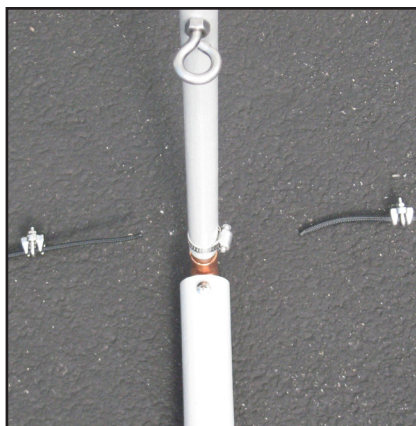

Fig. 96
- Select two (2) SS Lanyard Clamps and thread one lanyard through each of the clamps as shown in Fig. 96.